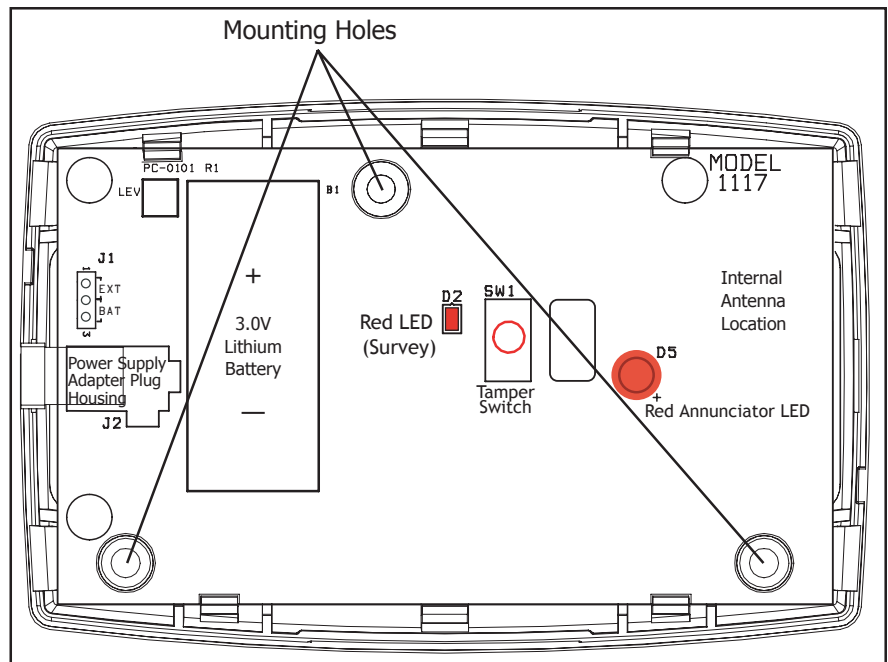

Figure 2: 1117 LED Annunciator PCB
The 1117 provides a survey capability to allow one person to confirm communication with the receiver while the cover is removed. The 1117 PCB Red Survey LED (see Figure 2) turns on whenever data is sent to the receiver then immediately turns off when the receiver acknowledgement is received. Pressing the tamper switch is a convenient way to send data to the receiver to confirm operation. When the 1117 does not receive an acknowledgement from the receiver the survey LED remains on for about 8 seconds to let you know communication is not established. Communication is also faulty when the LED flashes multiple times in quick succession. Relocate the 1117 or receiver until the LED immediately turns off indicating the 1117 and receiver are communicating properly. Proper communication between the 1117 and receiver is verified when for each press or release of the tamper switch, the LED blinks immediately on and immediately off. Repeat this test to confirm five separate consecutive LED blinks. Any indication otherwise means proper communication has not been established.
Mount the 1117 on a flat surface such as a wall or single-gang box. When using the Model 376 plug-in power supply, mount the 1117 near a wall outlet. See Figure 2 for mounting hole locations.
4. Place the 3.0V Lithium battery in the holder and press into place. See Figure 2 for Battery location.